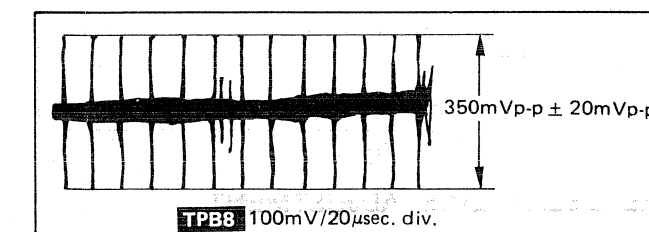

Fig. 4
4. Adjust R329 (Aperture Adj.) so that the **TPB8** becomes  $350mVp-p \pm 20mVp-p$  as shown in Fig. 4.